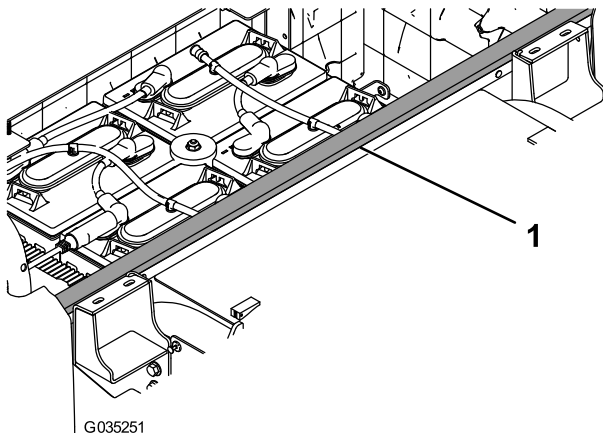

Figure 8
1. Remove the backing from the back foam seal and attach the seal to the machine as shown in Figure 8.